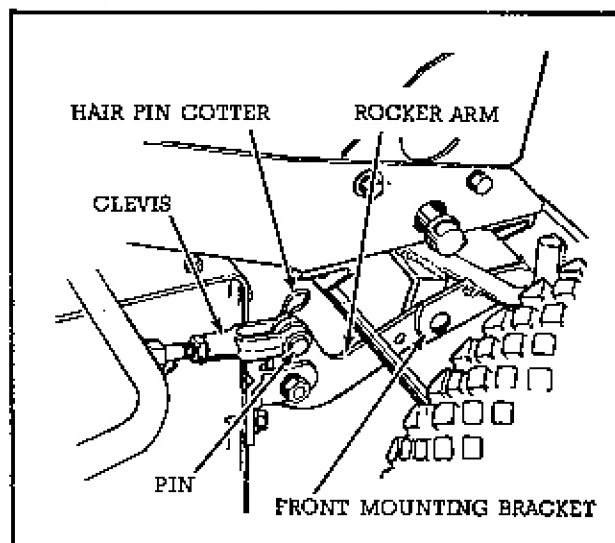

Fig. 2
2. Connect the rocker arms to front mounting brackets under the tractor, by using pins and hair pin cotters as shown in figure 2.